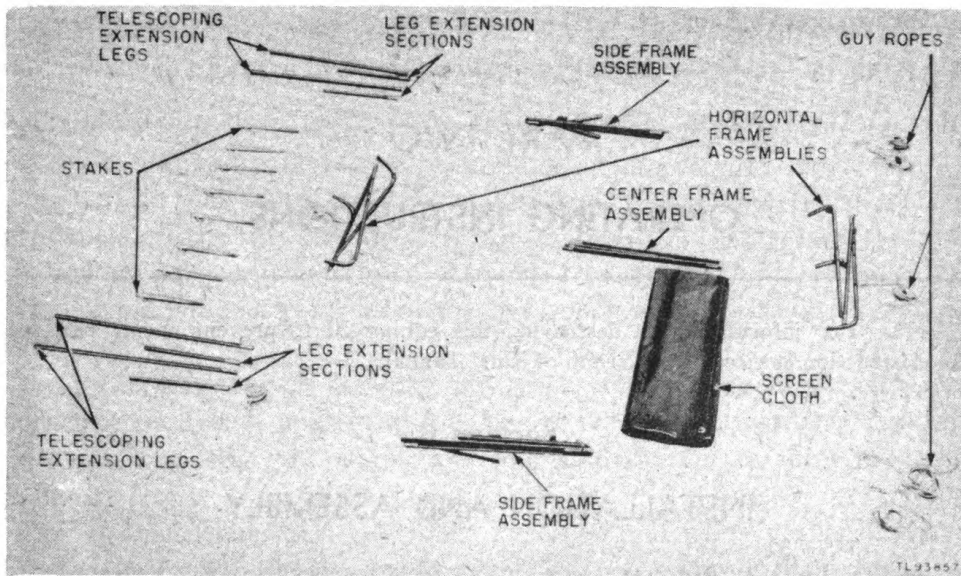

Figure 3. Component parts of Screen PH-555/GF laid out before setting up.
## 2. Component Parts (fig. 3)
## 3. Detailed Description (figs. 3 and 6)
- a. Remove all the parts from the case and lay them out. (See fig. 3.)